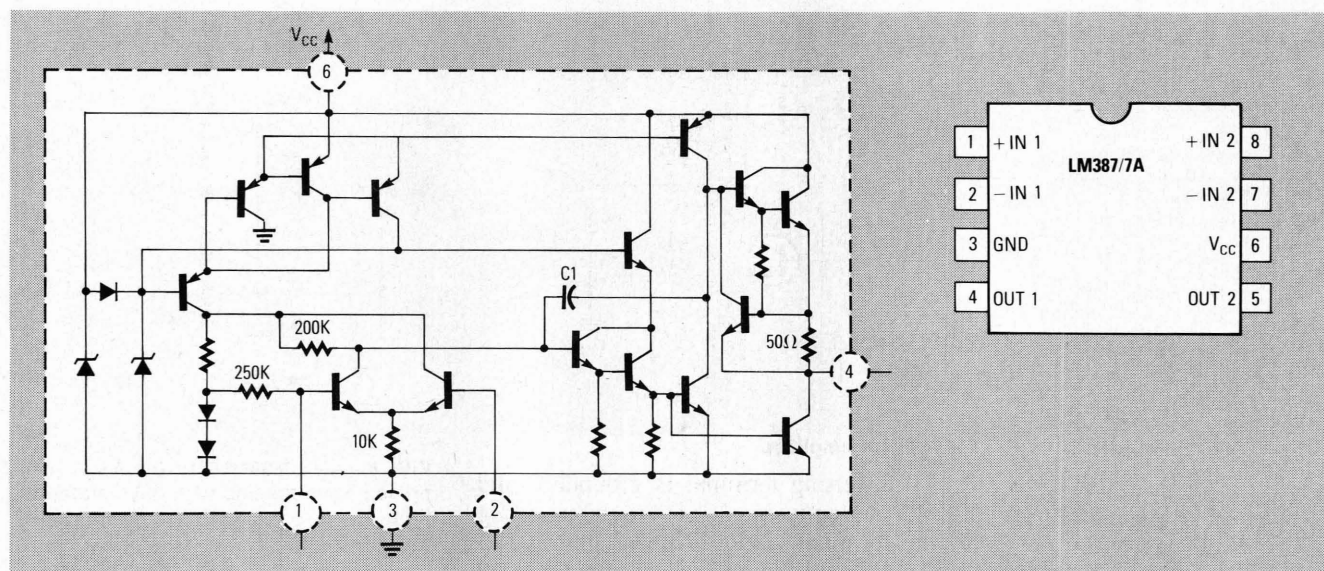

FIG. 4—THE LM387/7A DUAL LOW-NOISE PREAMP.
FIG. 4—IMPROPER WAVEFORMS. Waveforms a-d are caused by mechanical misalignment of the tape guides. The waveforms in e and f indicate proper alignment, but show that there's a problem with either the video heads, pre-amps, or head switcher.
- The LM387 and LM387A, shown in Fig. 4, are utility versions of the LM381/1A, with only the input and output terminals accessible, and no provision for external compensation or single-ended operation.